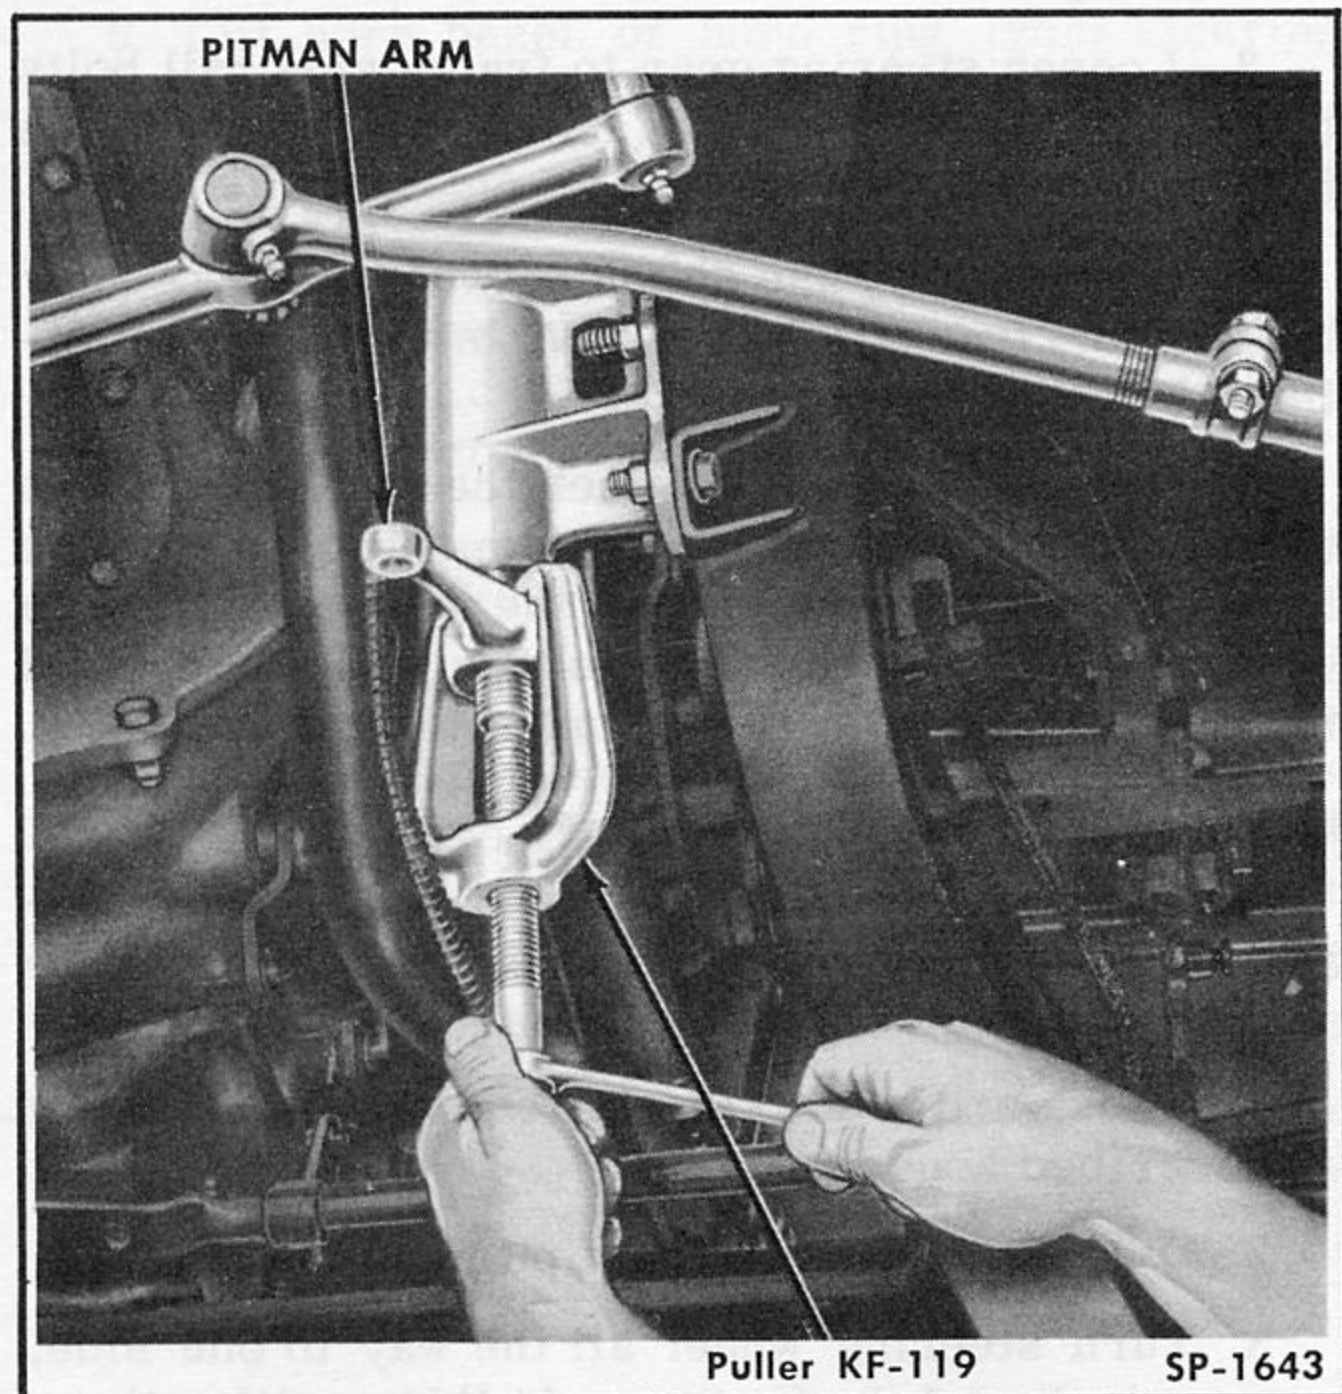

Fig. 195—Removing Pitman Arm
9. Disconnect tie-rod from pitman arm and remove pitman arm nut and lockwasher. Using Pitman Arm Puller KF-119, remove the arm from steering gear shaft (Fig. 195).
1. Disconnect tie rod from pitman arm by removing cotter pin and nut and dropping socket stud out of arm. Remove pitman arm from steering gear roller shaft, using Pitman Arm Puller KF-119 to remove arm (see Fig. 195).